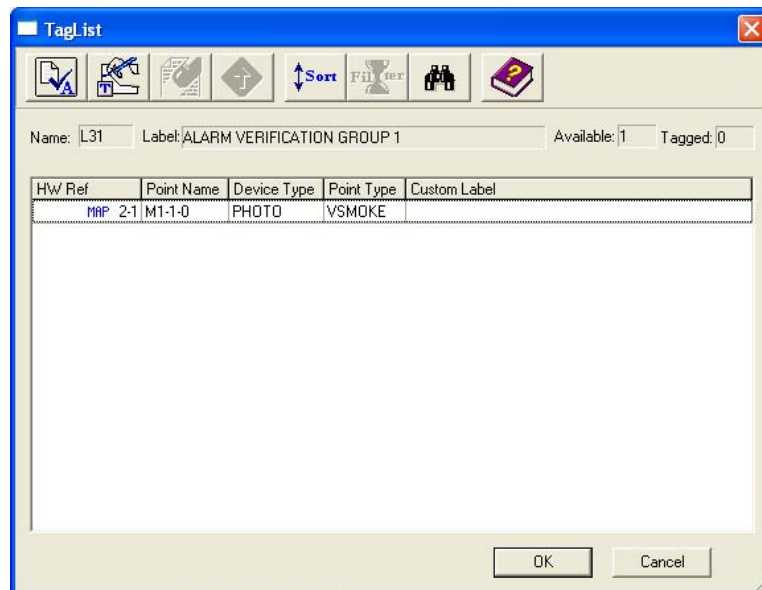

Figure 9-10. Sample Tag List for Alarm Verification Group
3. Click on the Alarm Verification group into which you want to move points. Right click and select **Tag List**. A screen similar to the one shown in Figure 9-10 appears.